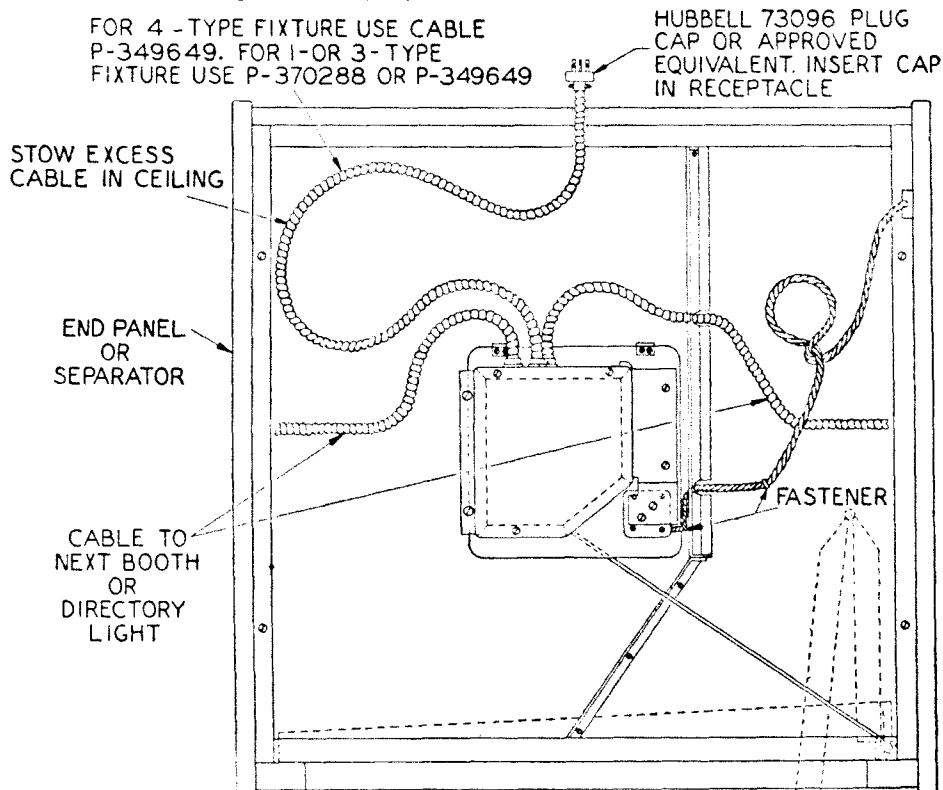

Fig. 4—Typical Installation for 3-Way Receptacle
6.09 Fig. 4 shows the 2-conductor armored flexible cable which should be used to connect the 3-way receptacle and the booth-lighting equipment.